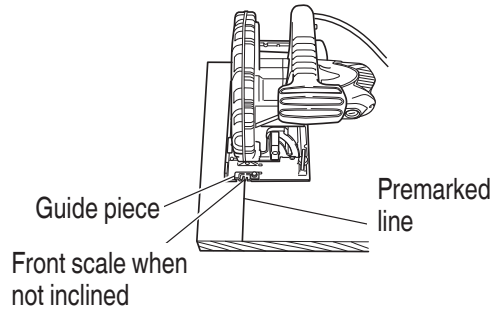
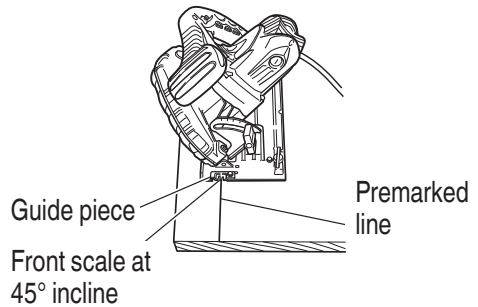

Fig. 10
Fig. 11
1. Place the base on the material, then align the premarked line and the sawblade with the guide piece front scale section at the front of the base (**Fig. 8 on page 23**). When the base is not slanted, use the large cutout as the guide (**Fig. 8 on page 23 and Fig. 10 at right**). If the base is slanted (45 degrees), use the small front scale as the guide (**Fig. 8 on page 23 and Fig. 11 at right**).